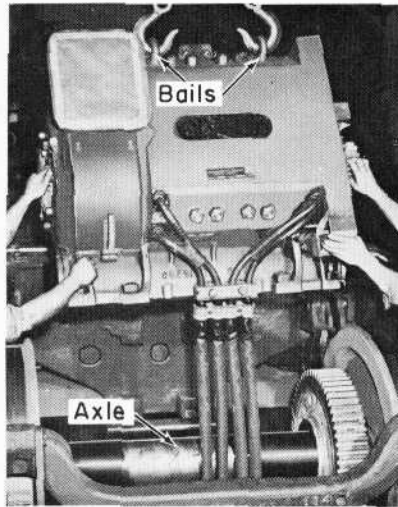

Fig. 16 - Removing
12. Lift the motor out of the truck with a crane, hooking the lifting chains into the bails on the nose side of the motor frame, Fig. 16. Rotate the motor around the axle sufficiently so that the lower lip of the support bearing housing will clear the axle and lift vertically out of the truck. Do not allow the inside bearing shell to fall on the floor.